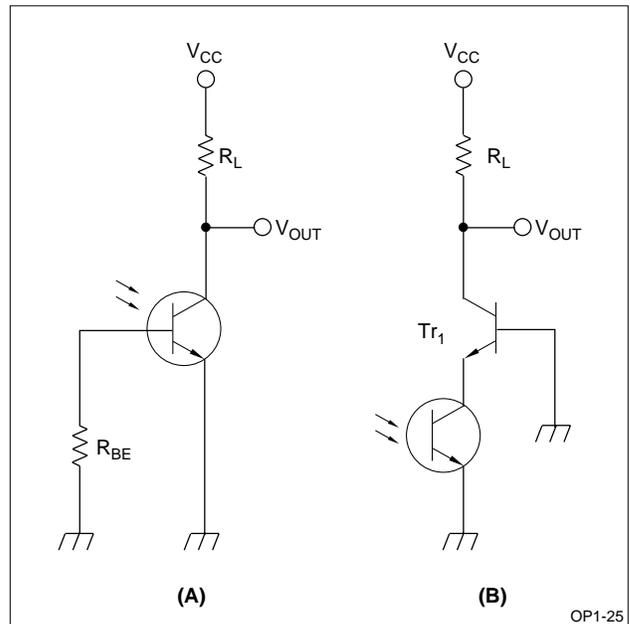

Figure 10. Fundamental Phototransistor Circuit (II)
The circuit shown Figure 10 (A) uses a phototransistor with a base terminal. A  $R_{BE}$  resistor connected between the base and emitter alleviates the influence of a dark current when operating at a high temperature. The circuit shown in Figure 10 (B) features a cascade connection of the grounded-base transistor ( $Tr_1$ ) so that the phototransistor is virtually less loaded, thereby improving the response.